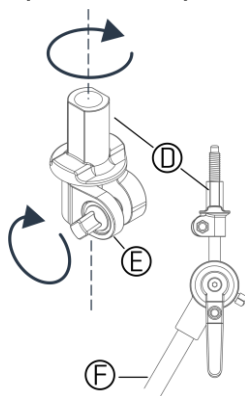

Figure 1
- 4 Secure the cymbal seat (D) by fastening screw (E) as shown in *Figure 1*.
- 5 Screw felt and wing nut (A) onto the cymbal arm.